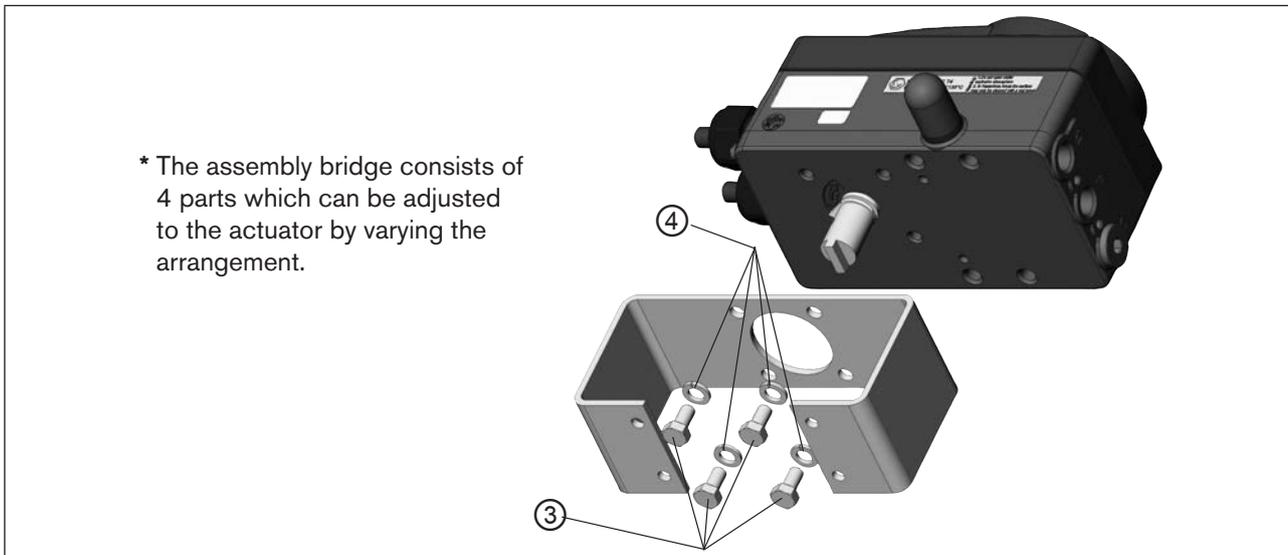

Figure 14: Attach assembly bridge (schematic representation)
→ Attach the assembly bridge to the device using 4 cheese-head screws ③ and circlips ④ (see "Figure 14").